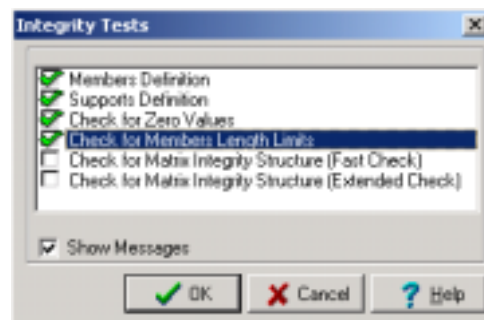

Figure 77 "Topology Check" dialogue box.
1. Choose the command Analysis > Topology Check or the appropriate icon . The dialogue box of figure 77 will appear.